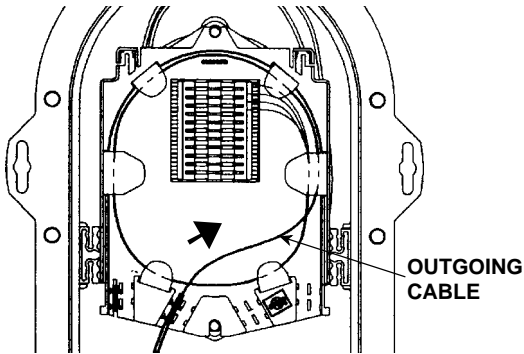

FIGURE 27 - ROUTING OUTGOING CABLE FIBERS
11.02 Route the fibers for the “outgoing” cable counterclockwise around the Splice Tray at least 1-1/2 times and into the splice block. (Figure 27)